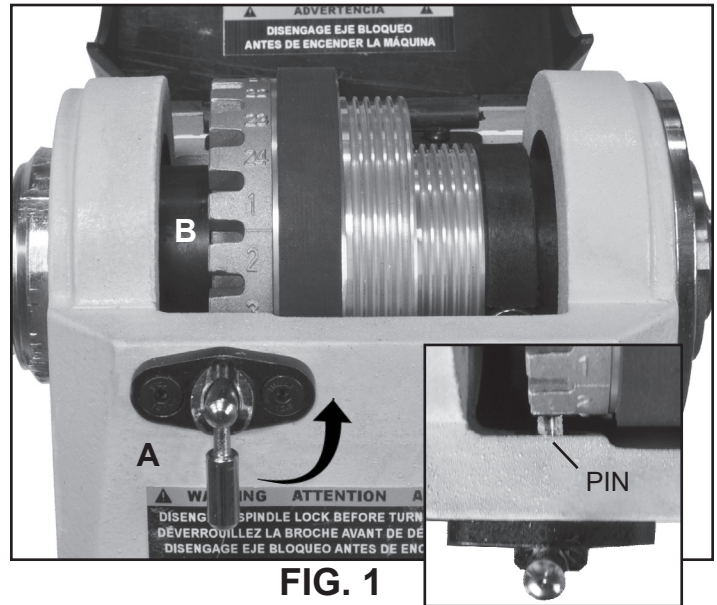

FIG. 1
1. **HEADSTOCK SPINDLE LOCK:** The spring loaded Index Pin Assembly (#29B, FIG. 1, A) is used to position the spindle for making accurate, spaced pattern work on projects such as straight fluting, grooving, drilling, detail carving, wood burning patterns and laying out designs. See page 14 for more information on indexing.
2. **HEADSTOCK INDEXING HOLES:** (FIG. 1, B) The largest Spindle Pulley (#7B) has 24 positioning 'holes' located around its left side. Each index hole is 15° apart, and marked for reference around the pulley perimeter. Insert the Indexing Pin (A) into one of these holes, and the spindle will be locked so that work can be done on the workpiece. See page 14 for additional information.